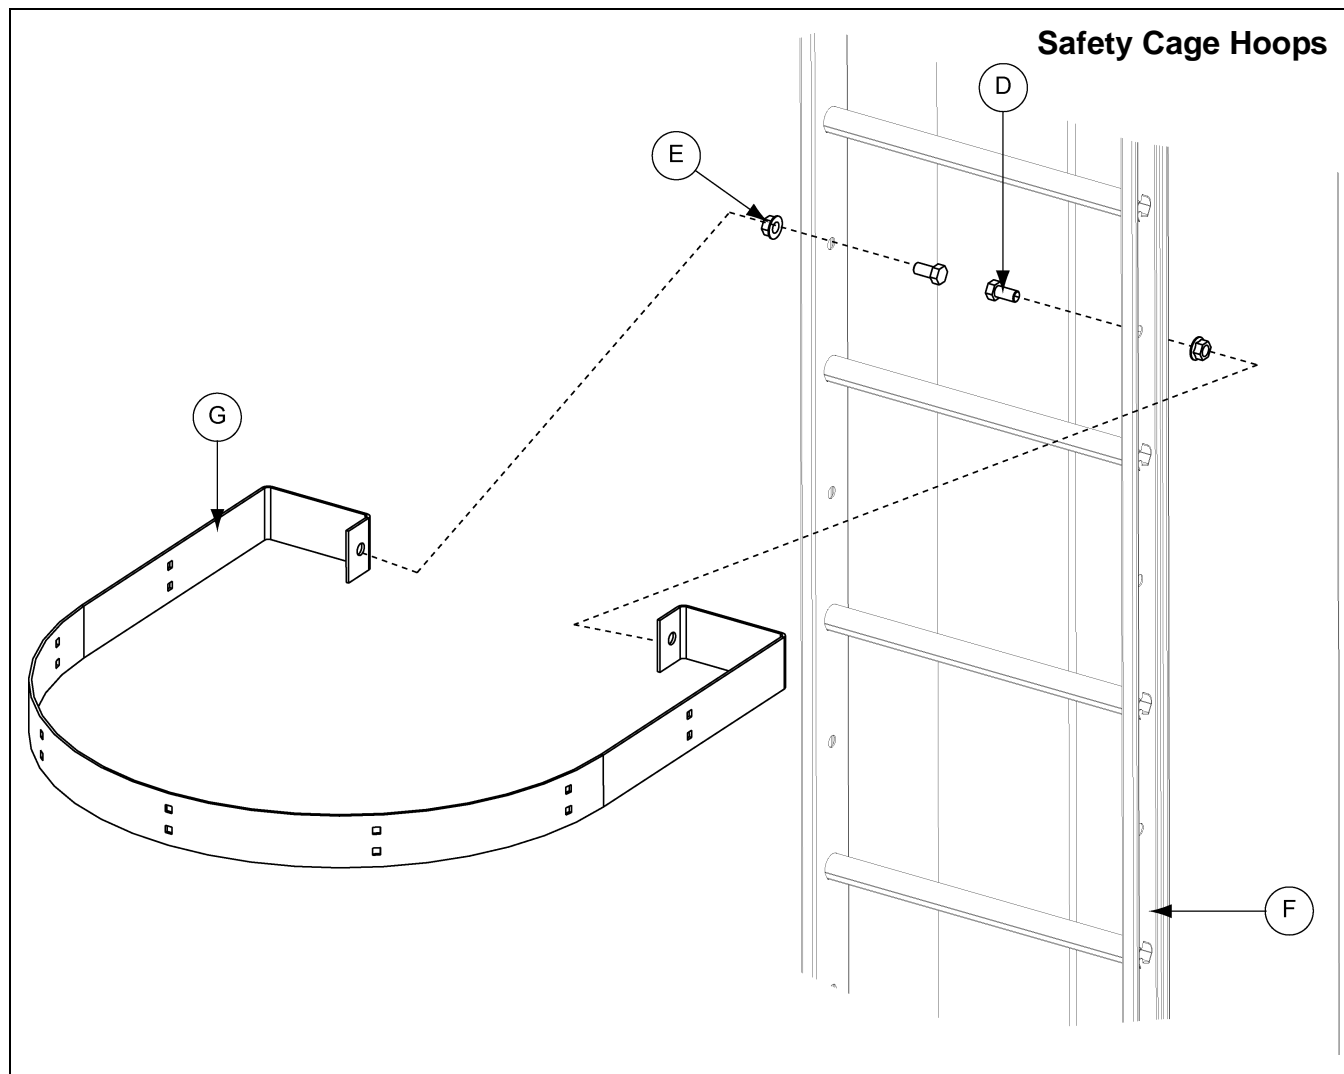

Figure 6T
2. Attach safety cage hoops to ladder using 1/2" x 1" bolts and nuts. (See Figure 6T.)